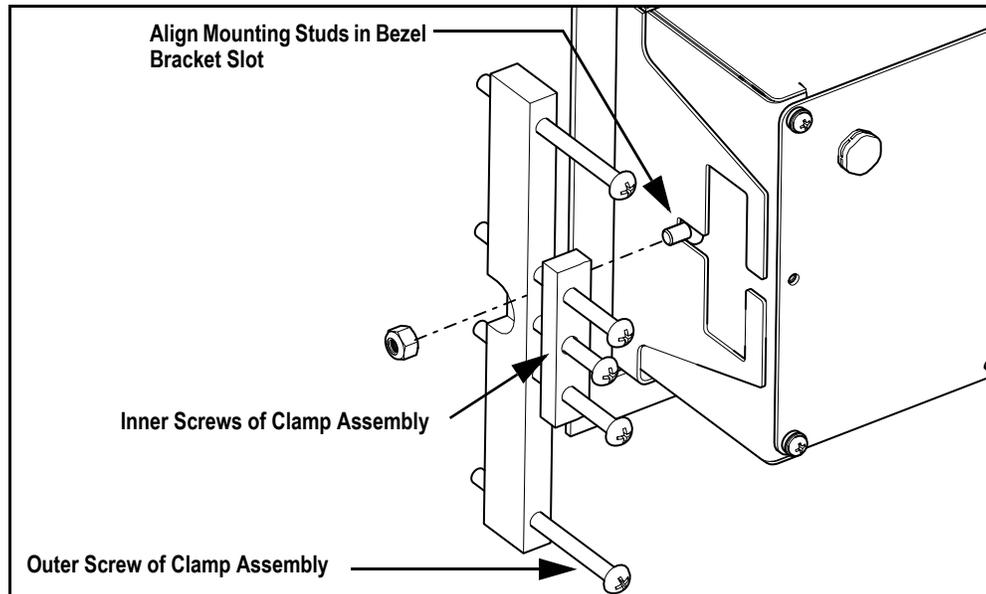

Figure 4. Install Indicator
10. Tighten the inner screws of the clamp assembly (see Figure 4), engaging the clamp bar in the bezel bracket while the indicator presses tight against the inner bezel gasket.